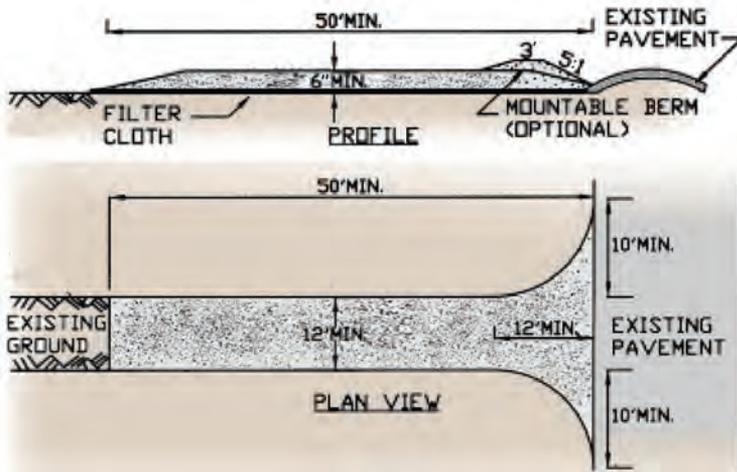

Figure 2.2. Stabilized construction entrance with optional mountable berm.
- Piping of surface water under entrance or a moundable berm shall be provided as required (Figure 2.2).